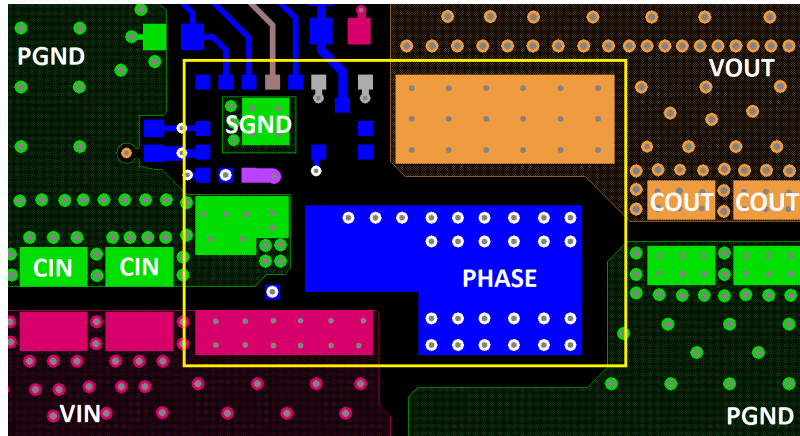

Figure 45. Layout Example - Top Layer
1. Place the input capacitors and high frequency decoupling ceramic capacitors between VIN and PGND, as close to the module as possible. The loop formed by the input capacitor, VIN pad, and PGND must be as small as possible to minimize the high frequency noise. Place the output capacitors close to the load. Use short, wide copper planes to connect the output capacitors to the load to avoid any parasitic inductances and resistances. A layout example is shown in Figures 45 and 46 on page 29.